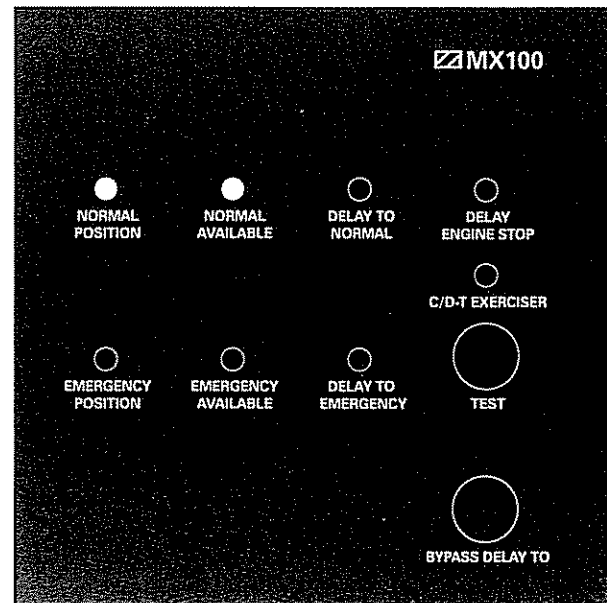

Figure 2 - Standard Transition
After all options and accessories are checked and verified, follow these steps to set up the ATS. Refer to MX100 display Figure 2. The annunciation LEDs illuminate to indicate (1) source availability, (2) ATS position, and (3) MX100 control function (timing).
For this test description, please refer to MX100 standard transition display *Figure 2*.